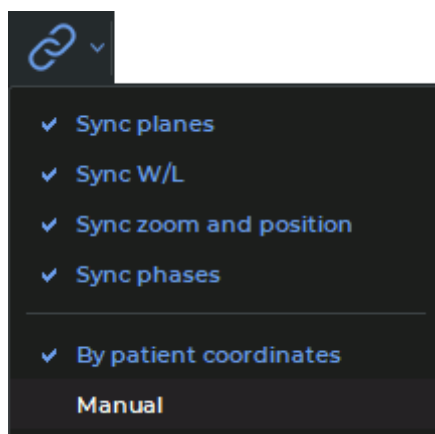

Figure 5.5: **Sync series** button menu
2. Select the synchronization types and modes from the drop-down menu (Fig. 5.5):